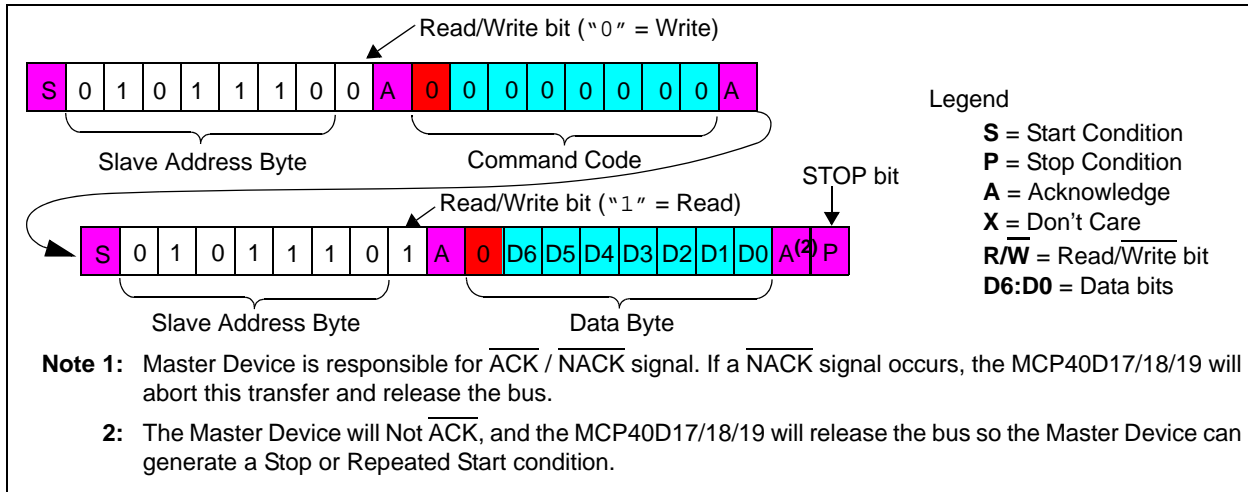

FIGURE 5-15: I^2C Read Command Format (Slave Address = "0101110").
The command is terminated once a Stop (P) or Restart (S) condition occurs. Refer to Figure 5-15 for the read command sequence. For a single read, the master sends a STOP or RESTART condition after the 1st data byte (and A bit) is sent from the slave.